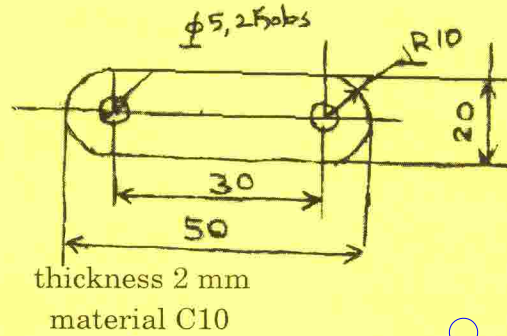

Fig. 14 (b)
- (b) Calculate the economic strip layout, press tonnage, centre of pressure and select the standard die-set for the component shown in Fig. 14 (b).